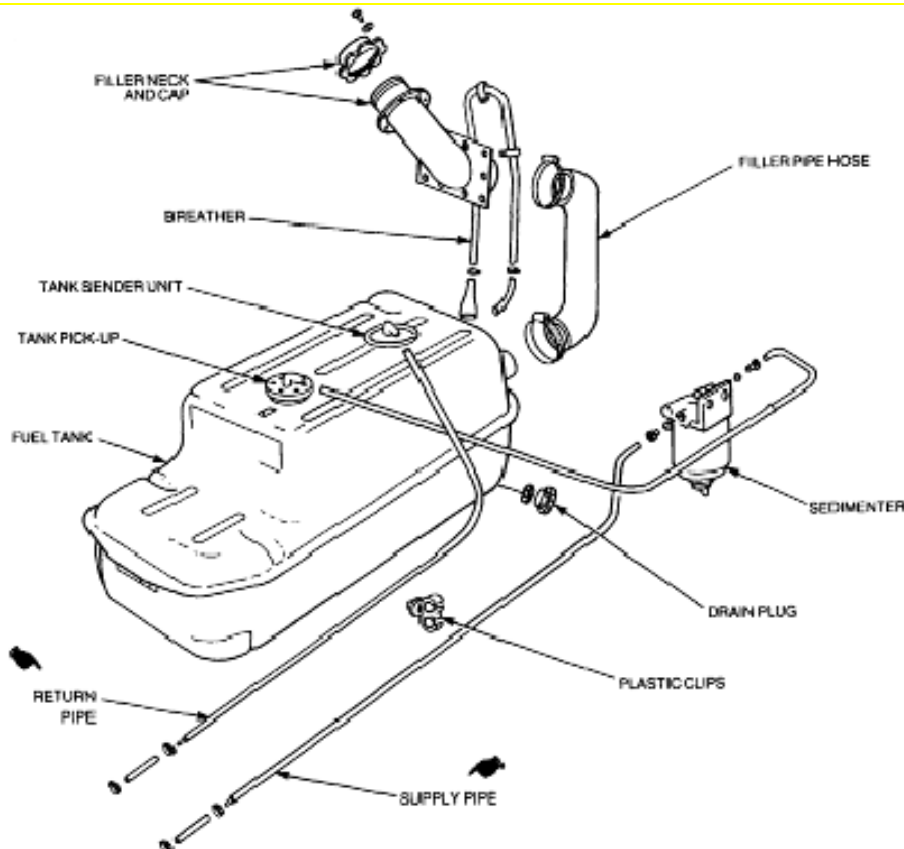

Figure 23 Fuel Tank Exploded View
- d. Remove the hexagonal head drain plug from the fuel tank (Figure 23).
- f. Remove the fuel lines complete with the steel tubing from the chassis plastic clips (Figure 23).